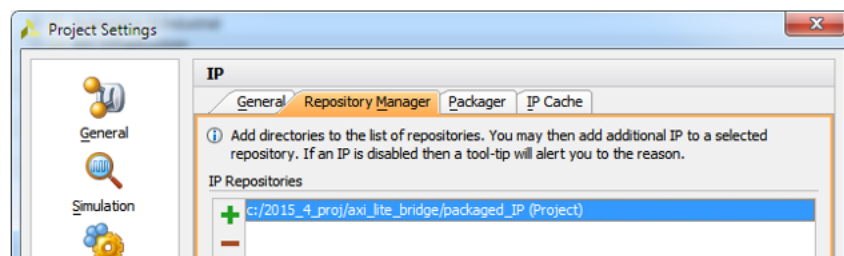

Figure 6: Packaged\_IP added to Repository Manager
- c. Click '+' to add the 'Packaged\_IP' directory as shown in Figure 6.